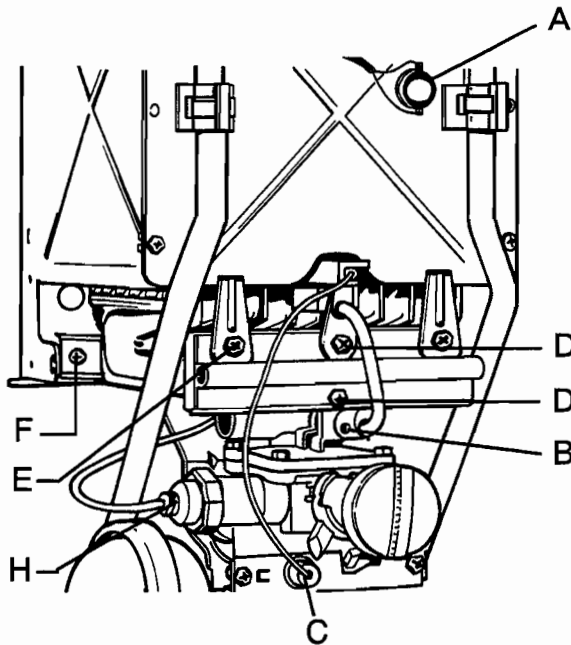

Fig. 8
a) Remove the thermal switch (A) by pulling forwards from its support bracket (see fig. 8).
b) Slacken screw (B) at the base of the pilot tube where the pilot tube is joined onto the gas section. Remove tube by pulling forwards.
c) Remove the electrode lead from the piezo unit cartridge by pulling off (C).
d) Remove the two screws (D) and the two screws (E) securing the manifold.